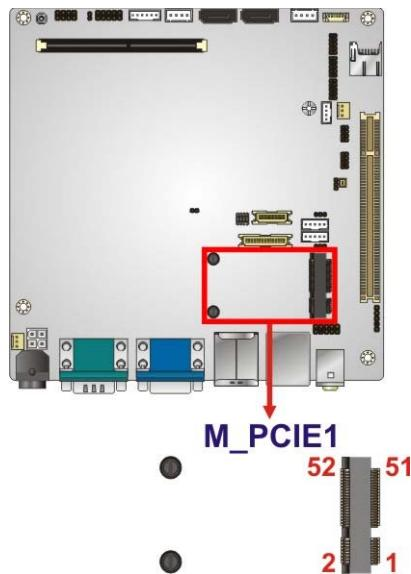

Figure 3-12: PCIe Mini Card Slot Location
**Table 3-12: microSD Slot Connector Pinouts****3.2.11 PCIe Mini Card Slot****CN Label:** M\_PCIE1**CN Type:** PCIe Mini card slot**CN Location:** See Figure 3-12**CN Pinouts:** See Table 3-13